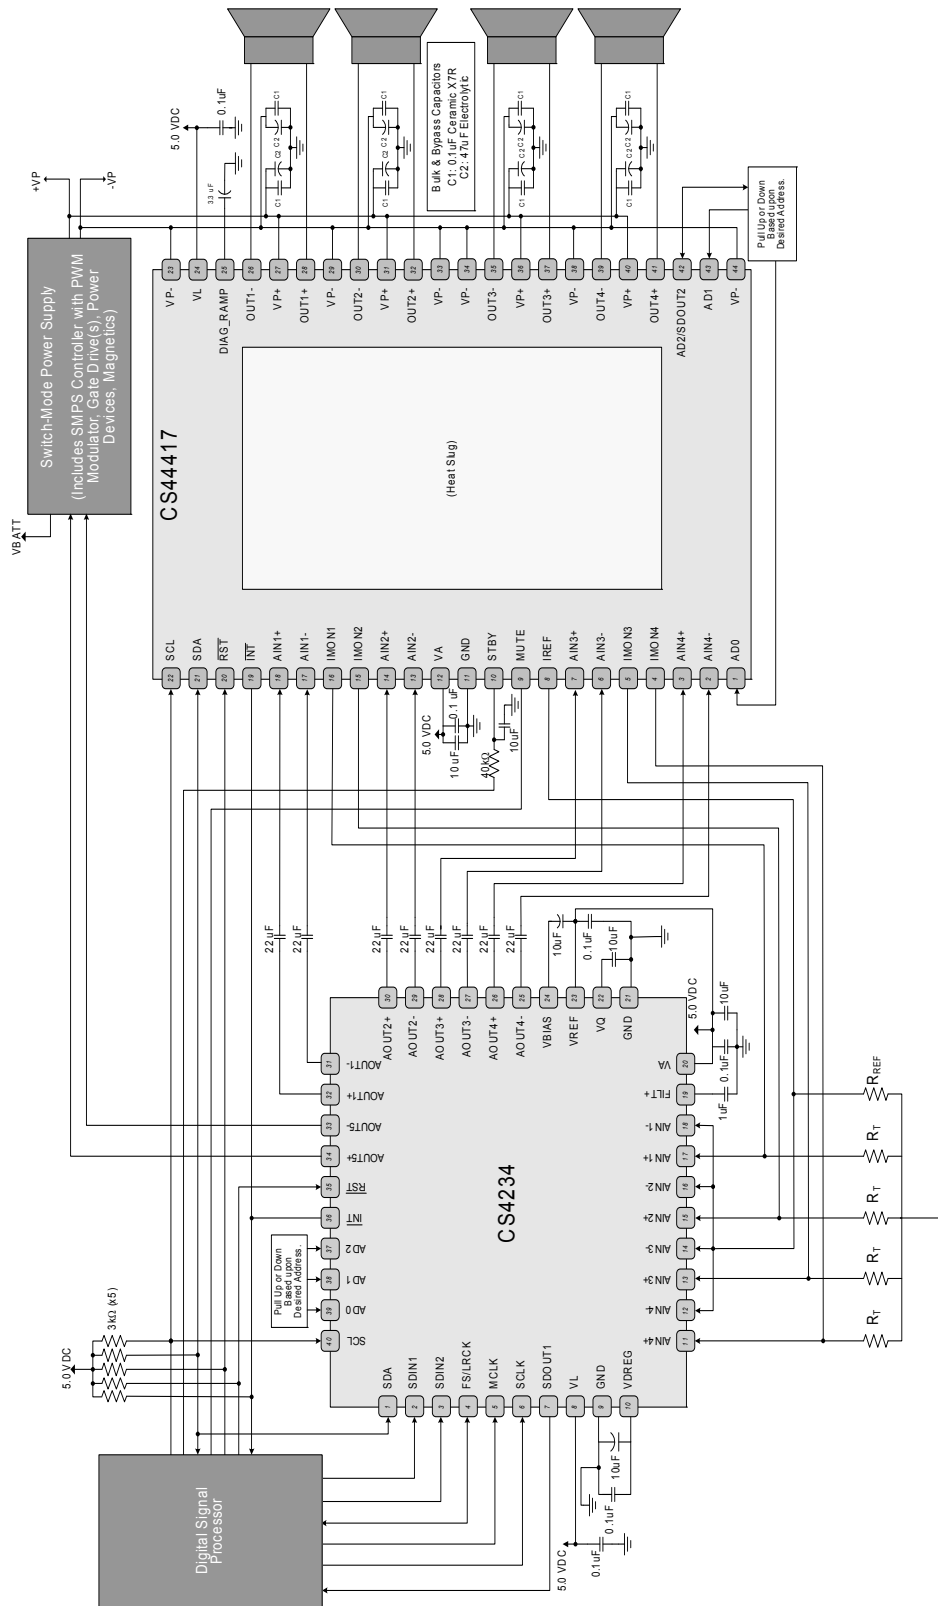

Figure 2. Typical Connection Diagram
2. This pin has no internal pull-up or pull-down resistors. External pull-up or pull-down resistors should be added in accordance with Figure 2.
This table represents the power consumption for individual circuit blocks within the CS4234. CS4234 is configured as shown in Figure 2 on page 8. $VA_SEL = 0$ for $VA = 3.3$ VDC, 1 for $VA = 5.0$ VDC; $F_S = 100$ kHz; $MCLK = 25.6$ MHz; DAC load is 3 k Ω ; All input signals are zero (digital zero for SDINx inputs and AC coupled to ground for AINx inputs).
Test Conditions (unless otherwise specified): Device configured as shown in Figure 2 on page 8. Input sine wave: 1 kHz; $VA_SEL = 0$ for $VA = 3.3$ VDC, 1 for $VA = 5.0$ VDC.; $T_A = -40$ to $+105$ °C; Measurement Bandwidth is 20 Hz to 20 kHz unless otherwise specified; Sample Rate = 48 kHz; all Power Down ADCx bits = 0.